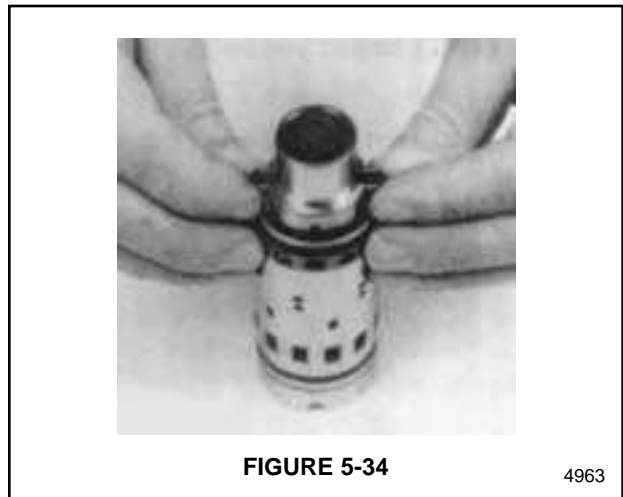

FIGURE 5-34
4. Center the springs in the sleeve. See Figure 5-34.